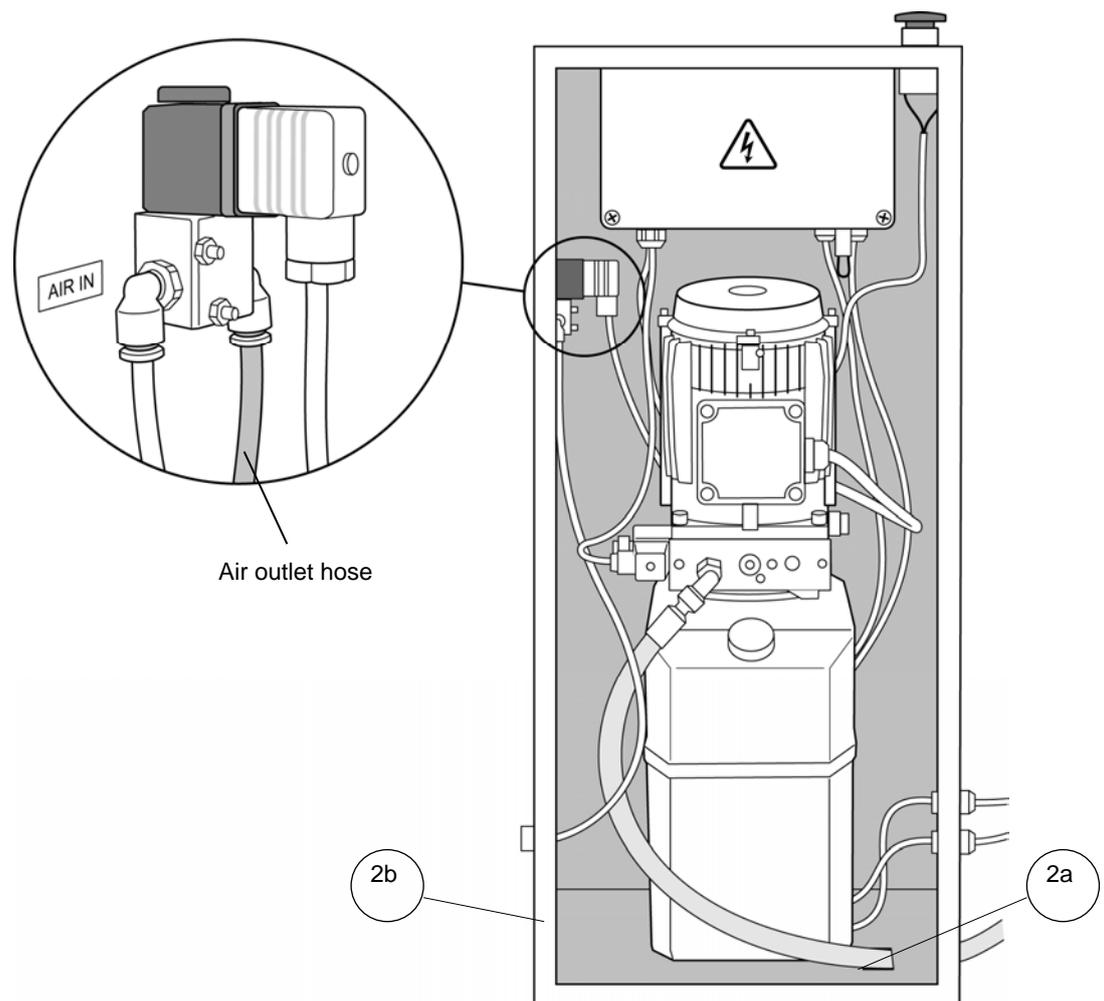

Figure 3.4 Connection of the pneumatic air outlet
- 1 **a: Insert the hydraulic hose through the hole at the bottom of the Power Unit cabinet, see Figure 3.4.**
- 1 Connect the air inlet hose to the air inlet connector on the left hand side of the Power Unit cabinet, see Figure 3.4.